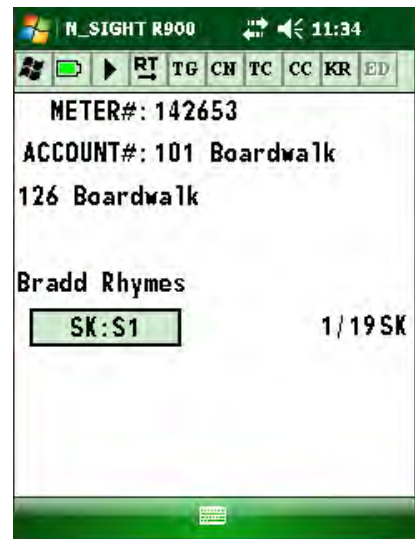

Figure 6.27 Reading to be Unskipped
- 1 Display the reading entry screen of the meter whose reading you skipped. See Figure 6.27.